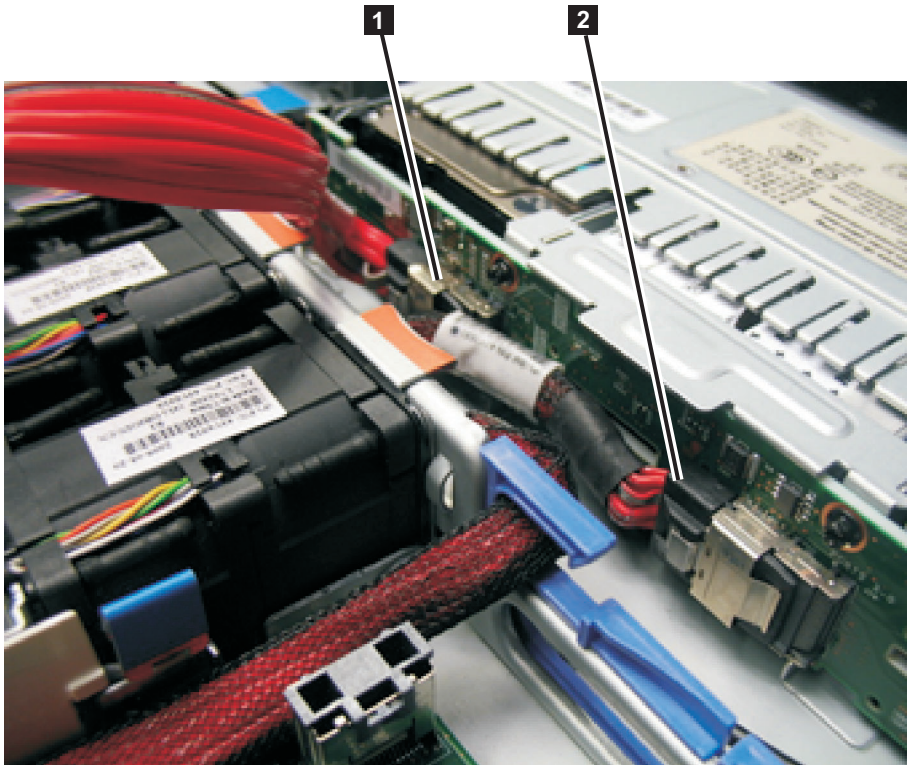

Figure 198. Boot-disk SAS cable and the high-speed SAS cable connected to the disk backplane in the SAN Volume Controller 2145-CG8 or 2145-CF8
11. Disconnect the high-speed SAS cable from the SAS connector in the center of the back of the disk backplane, as shown in Figure 198 on page 201.